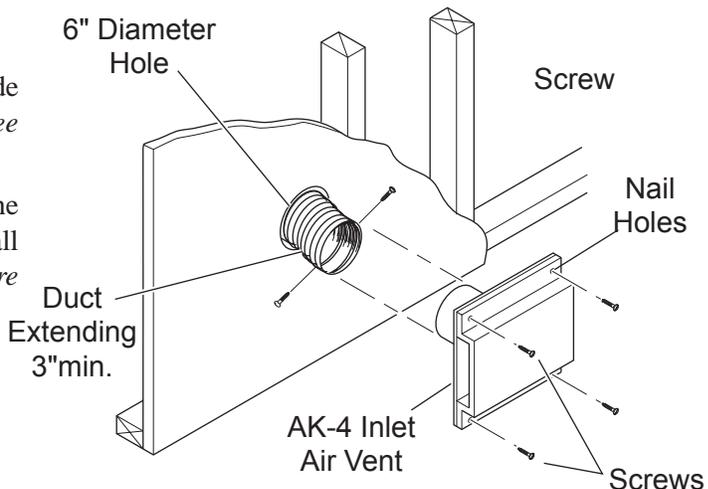

Figure 22 - Combustion Air Assembly for Model No. AK-4
5. Cut a 6-inch diameter opening for model AK-4 in the outside wall covering where the outside vent is to be located. *See Figure 22*